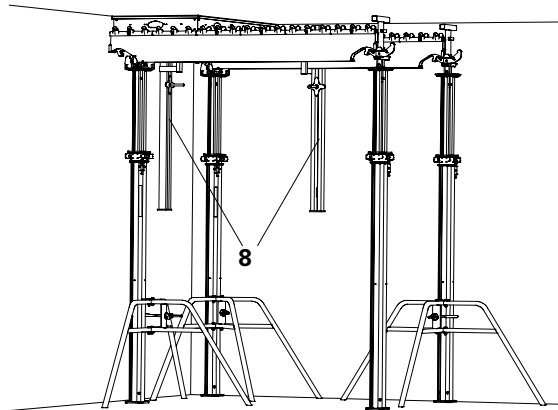

Fig. A4.06
2. Secure wall-side panel and Main Beam SLT with Wall Holder SWH-2 (8). (Fig. A4.06)